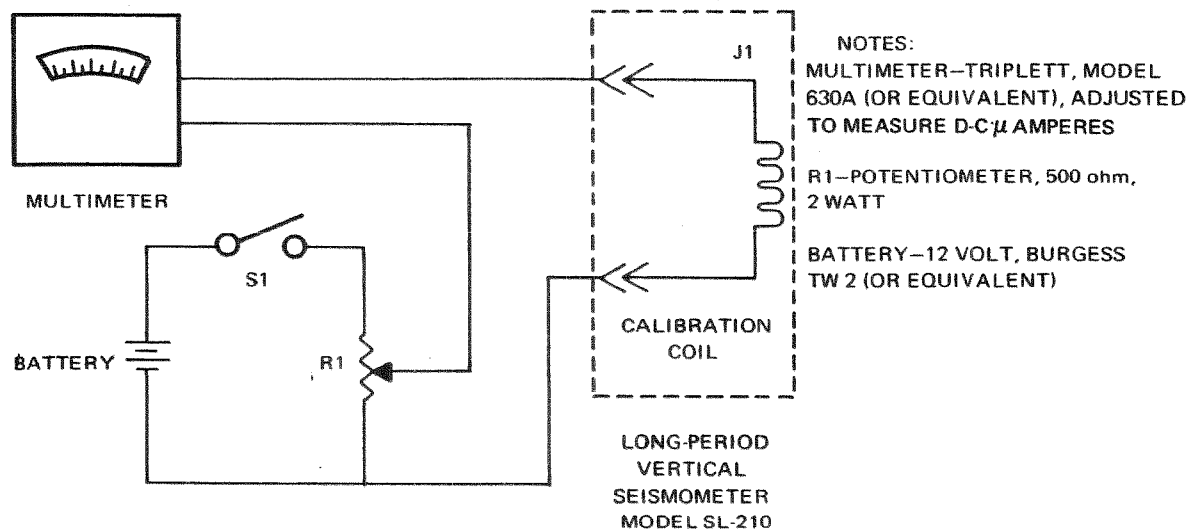

Figure 3. Test set up for natural period and damping
- a. connect the test equipment to the seismometer as shown in figure 3.
b. Use the test setup as shown in figure 3 with the addition of a variable resistance connected across the microvoltmeter. Set the value of the resistance to approximately 11,500 ohms. This is essentially the external damping resistance (R_X).
- b. Modify the test setup shown in figure 3 by adding a resistance equal to the CDRX across the microvoltmeter.